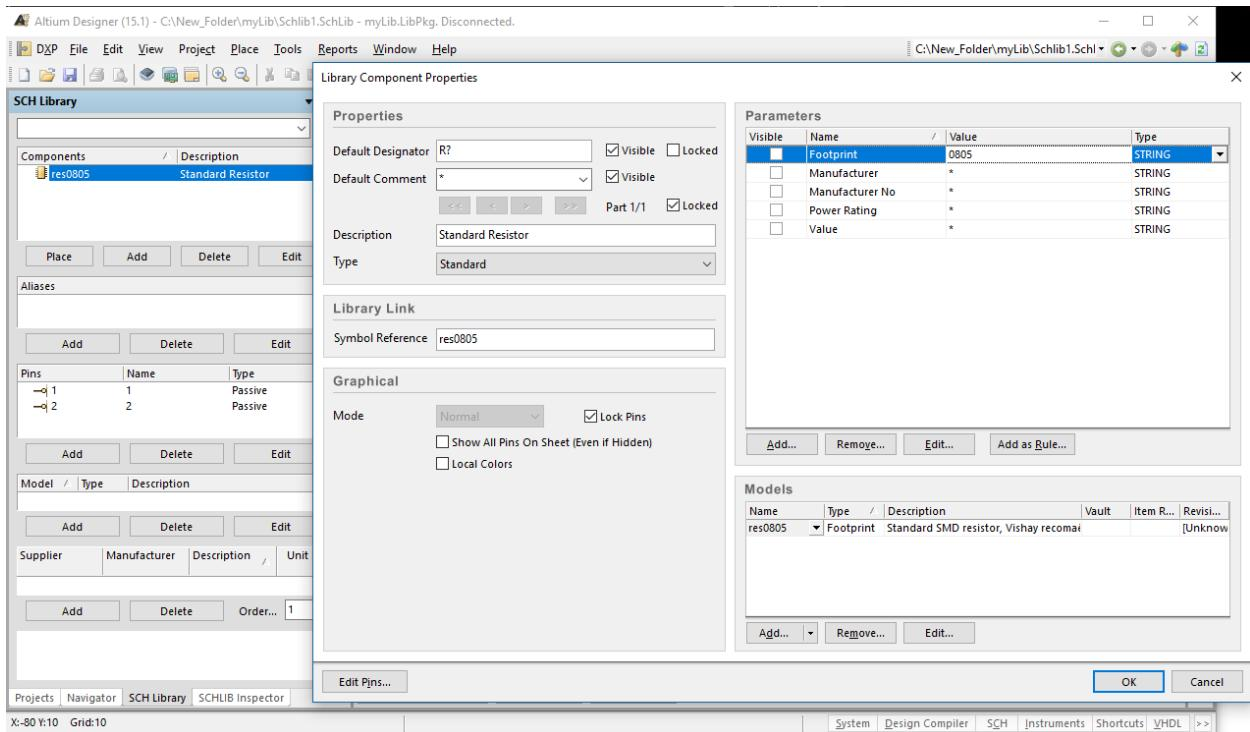
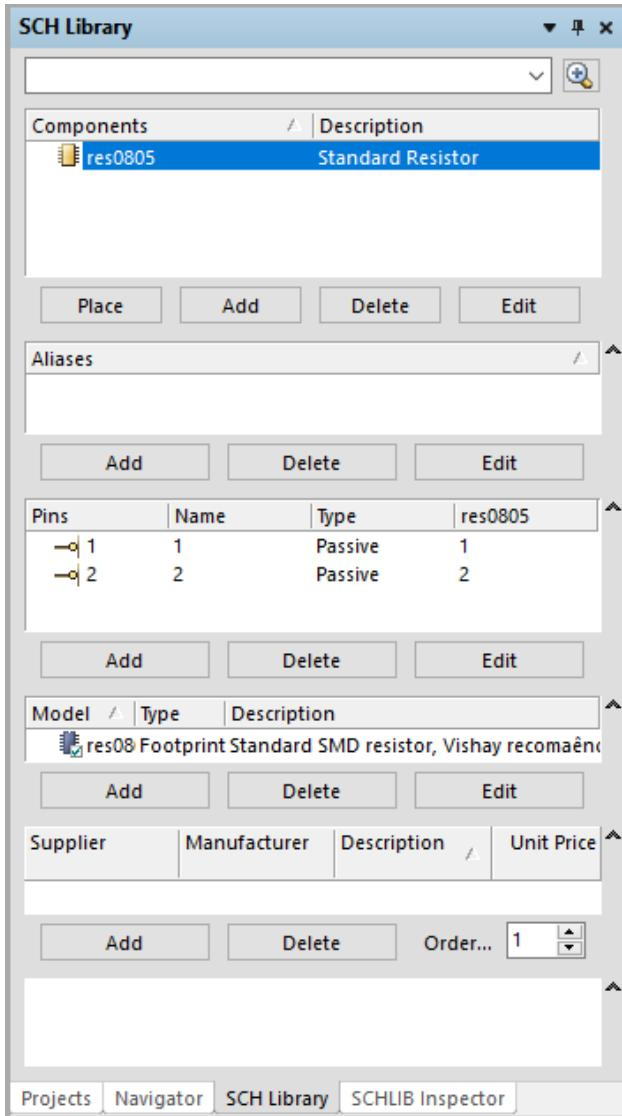

Figure 41: Altium SCH Library add a footprint to component.
Figure 42: Altium SCH Library footprint added to component.
22. Now go back to the SCH library document open the Library Component Properties dialog of the drawn resistor symbol and add the drawn footprint under model, which should look like in Figure 41. Press OK to close the dialog and notice the changes that have been made in the SCH Library View on the left side of the software, where the pins are mapped and the footprint is added, as shown in Figure 42. **Save with CTRL+S.**